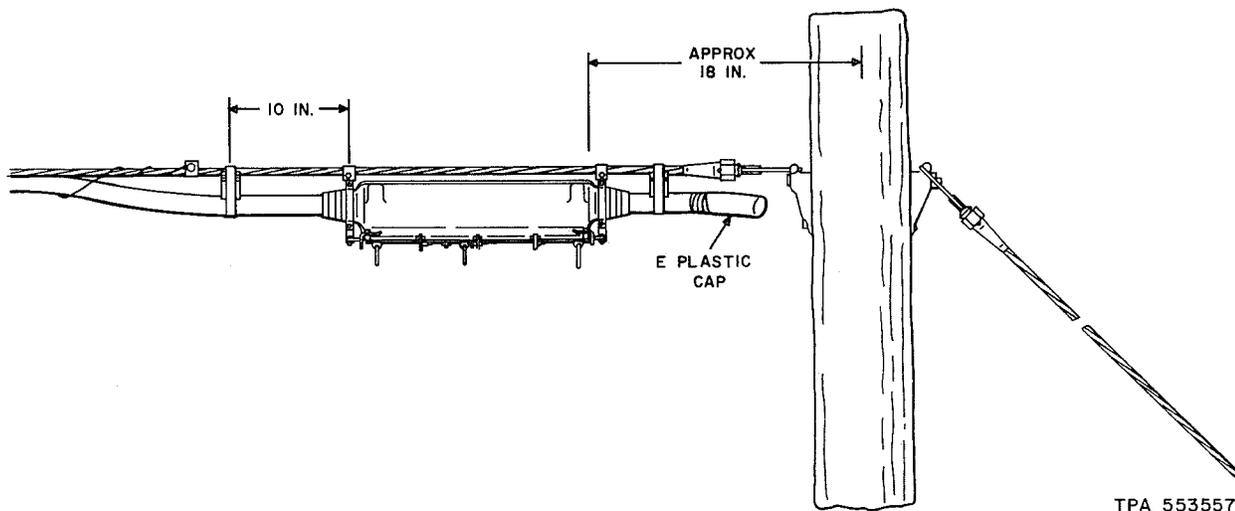

Fig. 1—Lashed Cable Capped at Deadend Pole
4.02 Strand-supported and self-supporting PIC cable should be cut and capped beyond the last distribution terminal location (Fig. 1 and 2). **Premeasure the location and construct the cable cap in a vertical position prior to placing the terminal and supports.**
- (j) Position and secure the cap as shown in Fig. 1, 2, 3, or 4, as appropriate.◆